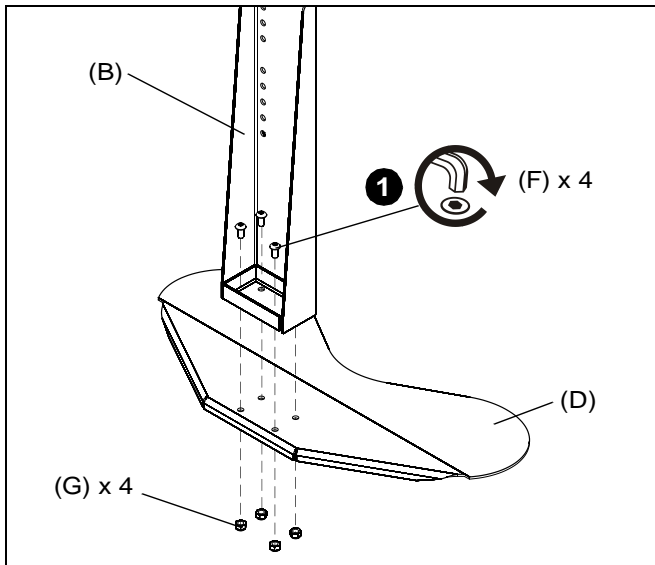

Figure 1
- Using four 5/16-18 x 5/8" button head cap screws (F) and four 5/16-18 Nylock nuts (G), secure post assembly (B) to base assembly (D). (See Figure 1)